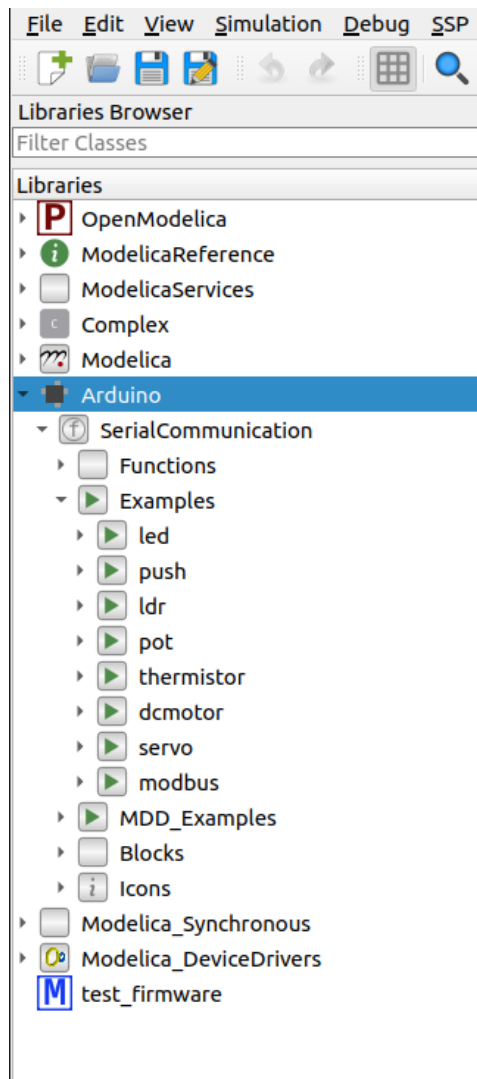

Figure 3.15: Examples provided in the OpenModelica-Arduino toolbox
5. Now, we will locate the models for running the experiments in the upcoming chapters. Under Libraries Browser, click on the arrow before Arduino to see the contents inside this package. Next go to SerialCommunication -> Examples. Under Examples, you will find the list of experiments like led, push, etc., as shown in Fig. 3.15.